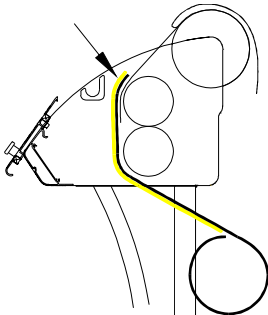

Figure 14
- Stick the lower web on the upper web (figure 14 or 15)